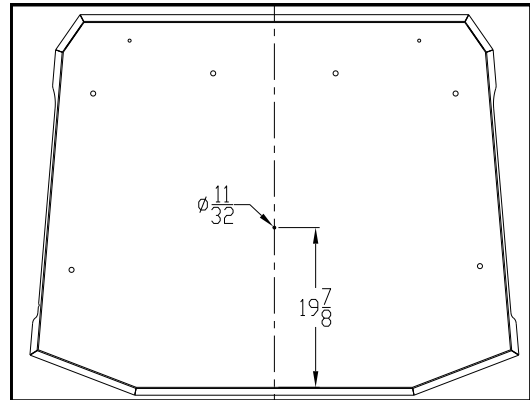
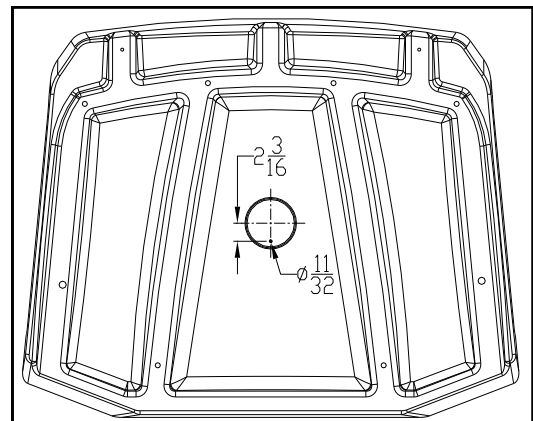

Fig. 2
Fig. 3
3. If no strobe light is installed on the canopy, drill an 11/32" hole at the location shown in fig. 2 (steel canopy) or fig. 3 (plastic canopy).